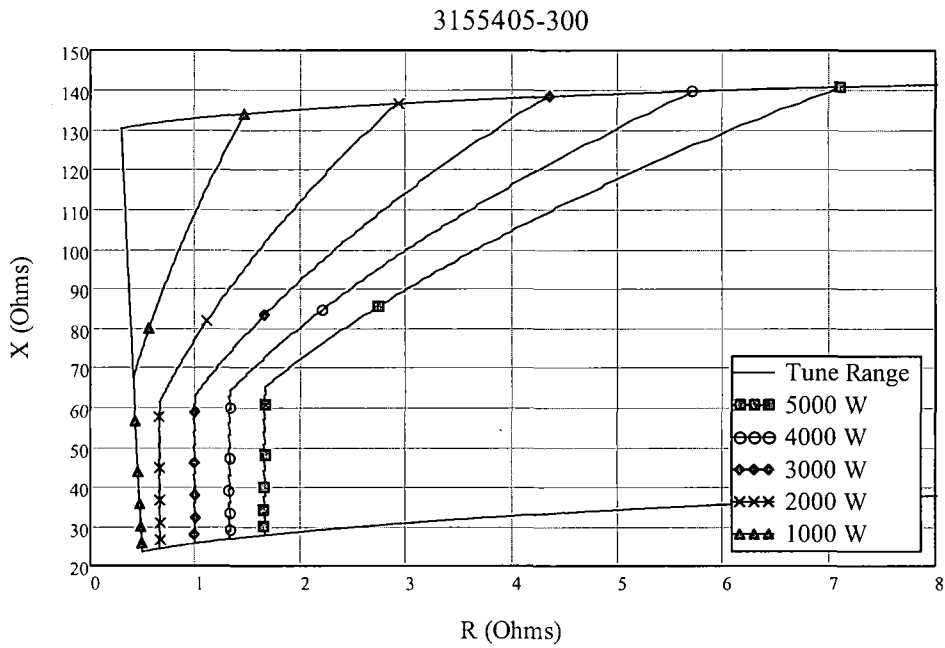

Figure 3 – Safe Operating Area
8.0 Figures and Drawings (fig 3): 3155405-300: Safe Operating Area